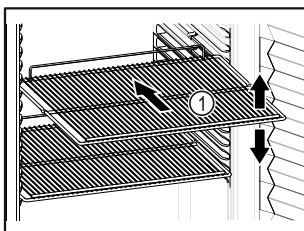

Fig. 61 Example illustration
- ❑ If there are adjustable shelves *Fig. 61 (1)*, position them as required.